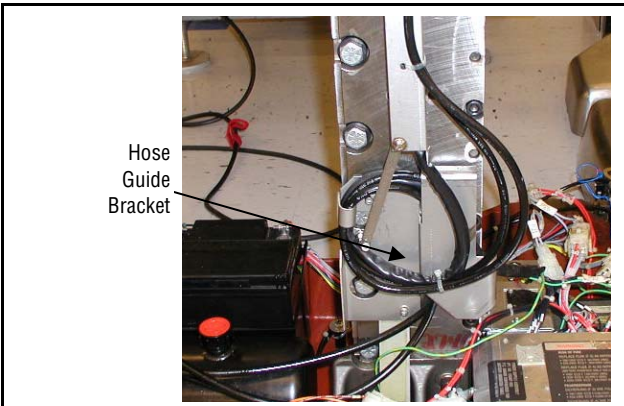

Figure 7-9. Remove Hose Guide Bracket
6. Remove hose guide bracket (see Figure 7-9).